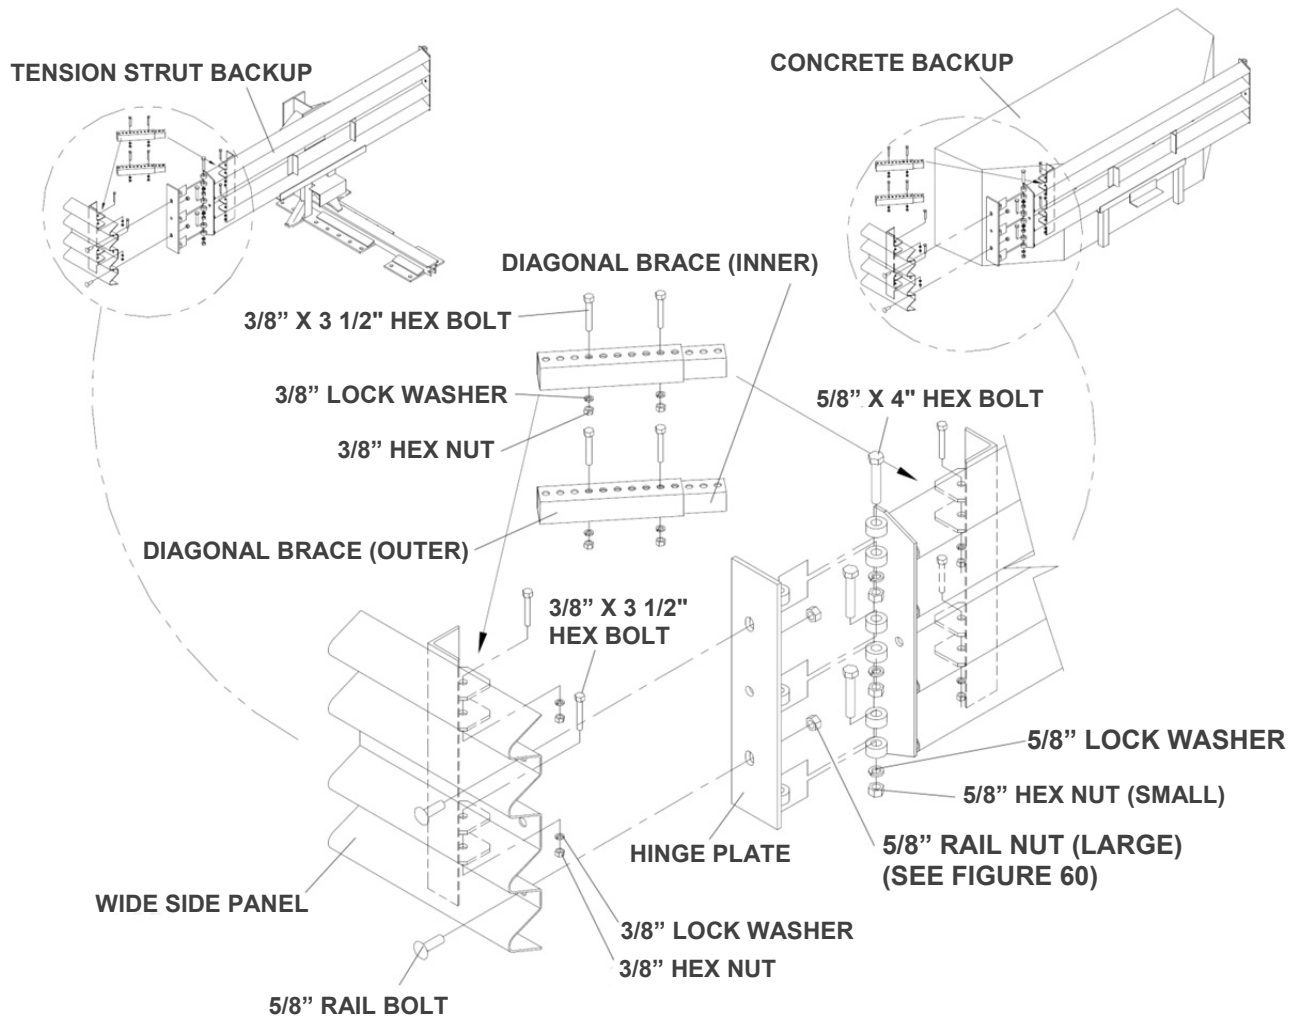

Figure 56
5) Attach Side Panels and/or Transition Panels to Backup Assembly (see Figure 56).
- Attach Transition Panel or Side Panel assembly to side of Backup using 5/8" x 4" hex bolt, 5/8" lock washer and 5/8" hex nut at three places on each side of Backup (see Figure 56).
- Secure each diagonal brace with 3/8" hex bolt, 3/8" lock washer, and 3/8" hex nut (two places per brace) as shown in Figure 56.